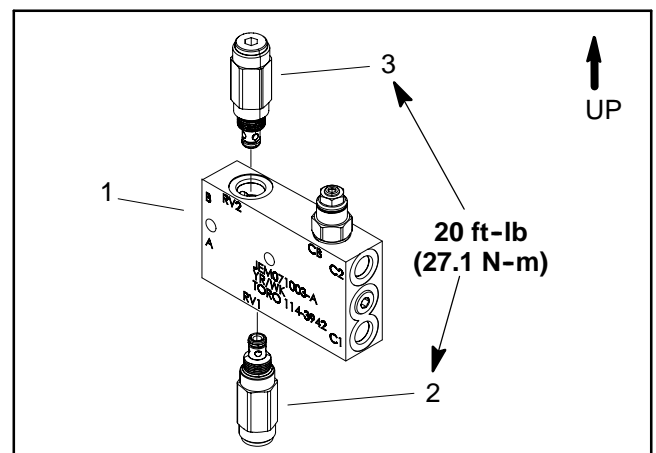

Figure 16
10. If measured relief pressure is incorrect, relieve hydraulic system pressure (see Relieving Hydraulic System Pressure in the General Information section of this chapter) and remove relief valve on lift relief manifold (Fig. 16). Clean or replace relief valve (see Lift Relief Manifold in the Service and Repairs section of this chapter). Also, if relief pressure is low, consider a problem with the tow vehicle hydraulic system. Internal lift cylinder leakage could also cause low circuit pressure.